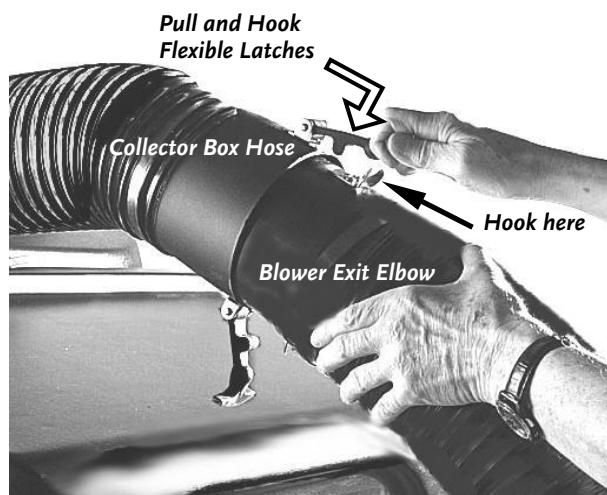

Figure 15
1. Connect the Hose from the Collector Box to the Blower Exit Elbow Assembly by aligning the two (2) Flexible Latches (**Figure 15**) and slipping the Hoses together.
2. Pull and hook the two (2) Flexible Latches into place (**Figure 15**) to secure the Hoses.